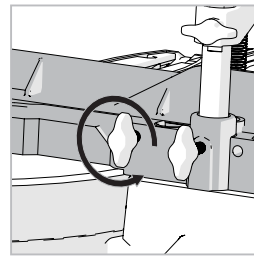

Fig. 10
- Loosen the thumbscrew. **(Fig. 10)**